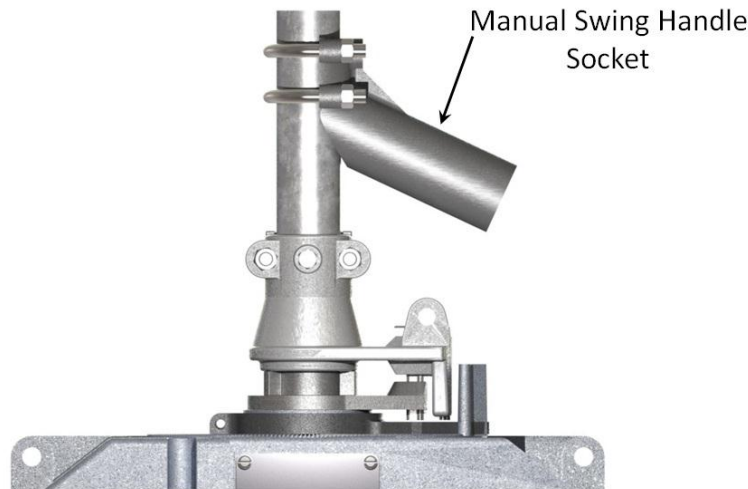

Figure 14 - Swing Handle Attachment
1. Attach swing handle socket as shown in Figure 14.